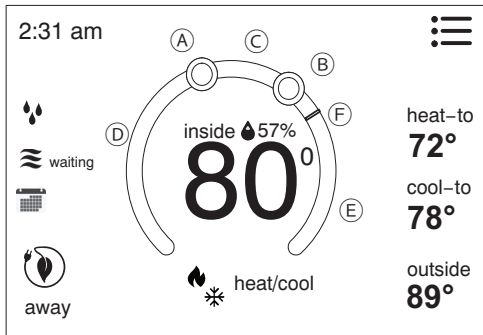

Figure 1. Temperature Dial Feature
- This is the location area where no system demand is active. In figure 1, the example would be any temperature between 73°F and 77°F.